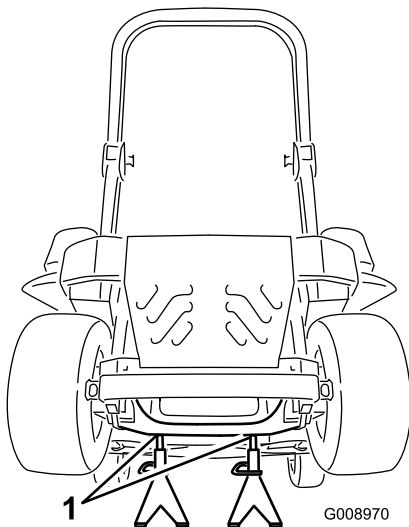

Figure 79
3. Raise the machine and support it with jack stands (Figure 79).
9. Remove the jack stands and lower the machine (Figure 79).